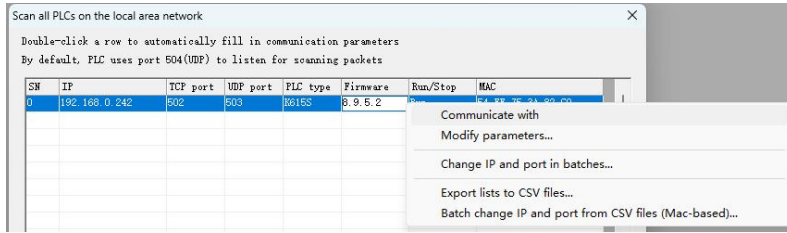

Figure 6.6-6 PLC scan and connection
- [After double-click Scan Ethernet], all the PLs connected in the network appear under the device tree on the left, as shown in the left in Figure 6.6-6 below.
- The [Scan] under [PC communication settings] will pop up [Scan this LAN all PLC] popup, and all connected PLC's in the network will appear in the popup, as shown on the right of Figure 6.6-6 below.